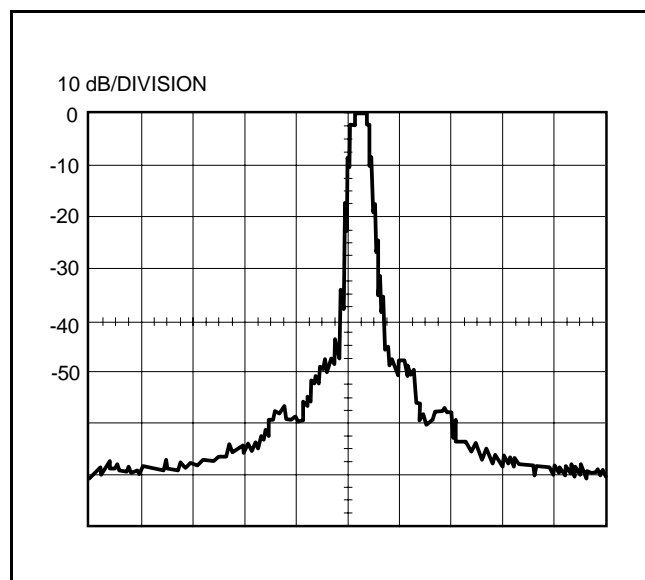

Figure 5-10. Spectrum Analyzer Screen Display
7. Set the spectrum analyzer frequency span/div to 100 kHz. The spectrum analyzer display should resemble Figure 5-10.